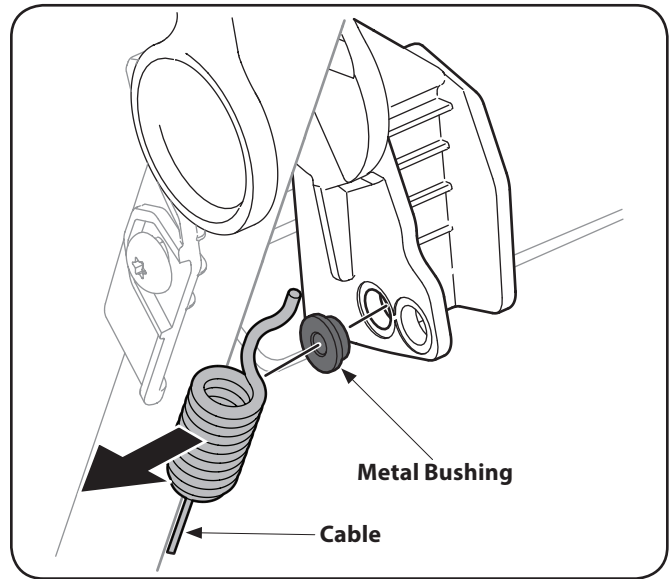

Figure 6-4
3. Unhook the cable and remove the metal bushing from the plastic drive handle. See Figure 6-4.